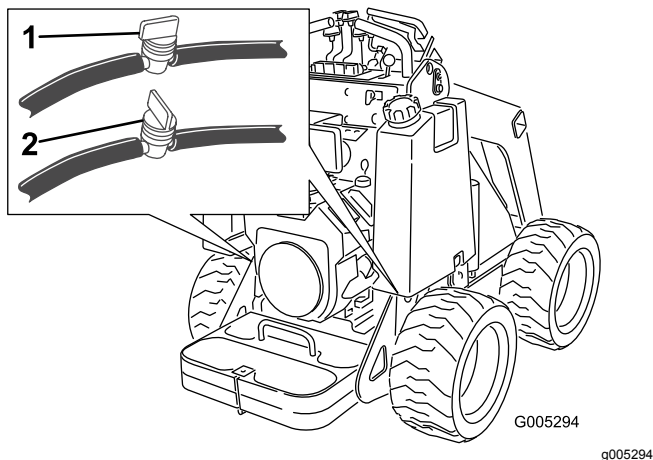

Figure 30
3. Shut off the fuel valve on the bottom of each fuel tank (Figure 30).
3. Shut off the fuel valve in the hose near the bottom of the fuel tank(s) as shown in Figure 30.
8. Open the fuel valve(s) in the hose(s) near the bottom of the fuel tank(s) as illustrated in Figure 30.